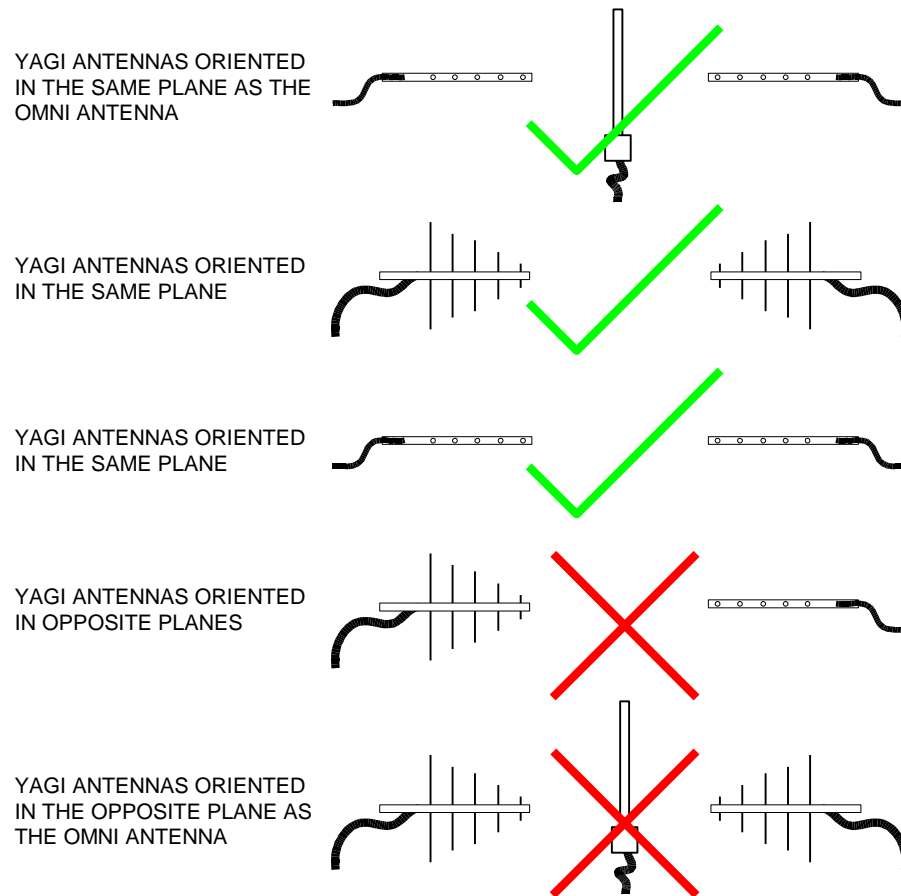

Figure 7 – Antenna Orientation
- Figure 7 – Antenna Orientation 10